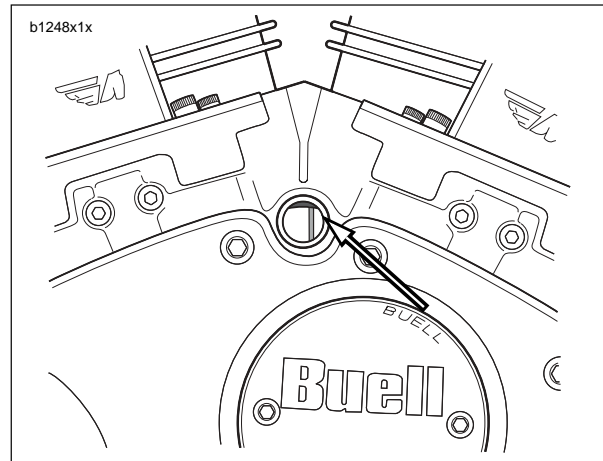

Figure 1-55. Retard Timing
4. See Figure 1-55. If timing is retarded (mark appears on right side of window) rotate timing plate clockwise.